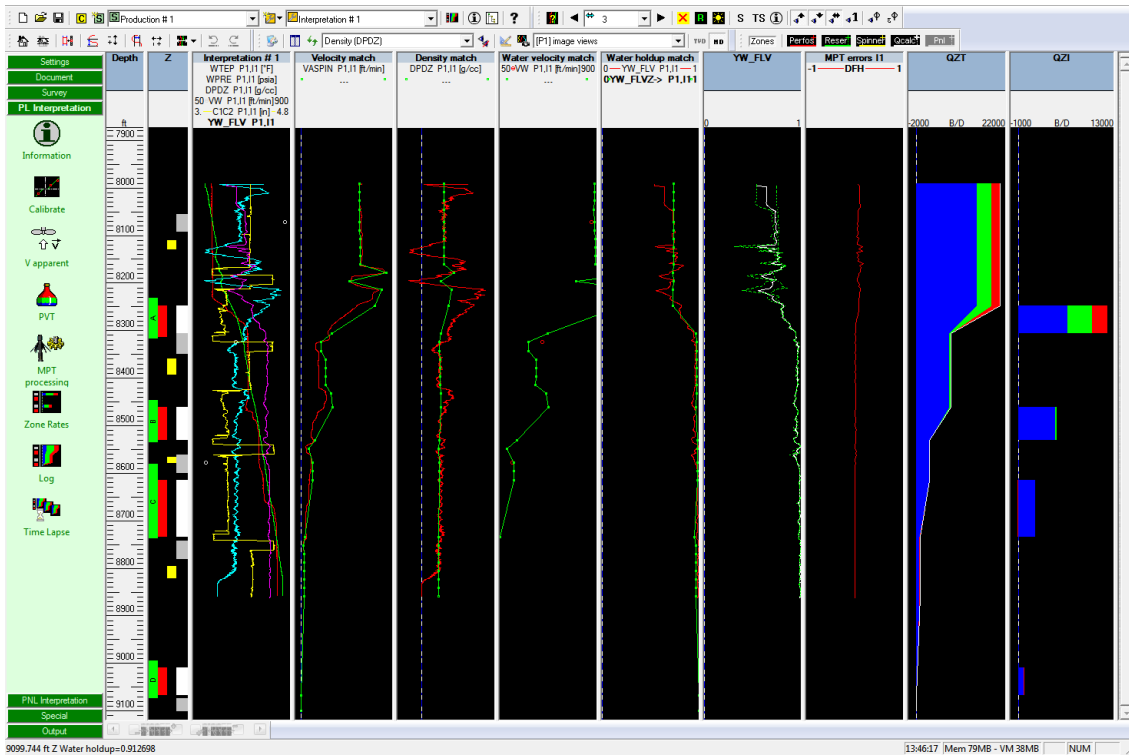

Fig. B05.34 • Schematic generated
- Validate the Zone Rates results and generate the schematic logs down to 9100 ft, Fig. B05.34.